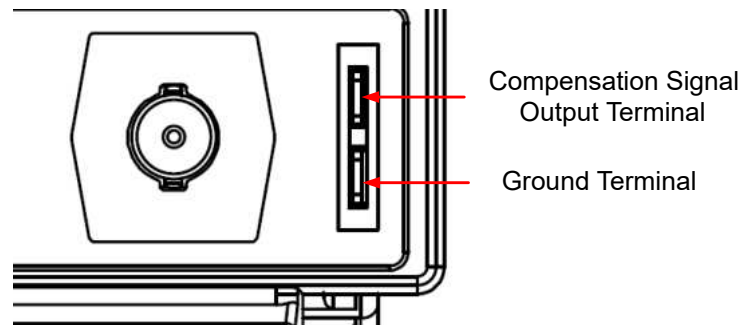

Figure 4.7 Use the Compensation Signal
2. Connect the ground alligator clip of the probe to the "Ground Terminal" as shown in *Figure 4.7* below.
3. Use the probe to connect the input terminal of CH1 of the oscilloscope and "Compensation Signal Output Terminal" shown in *Figure 4.7*.